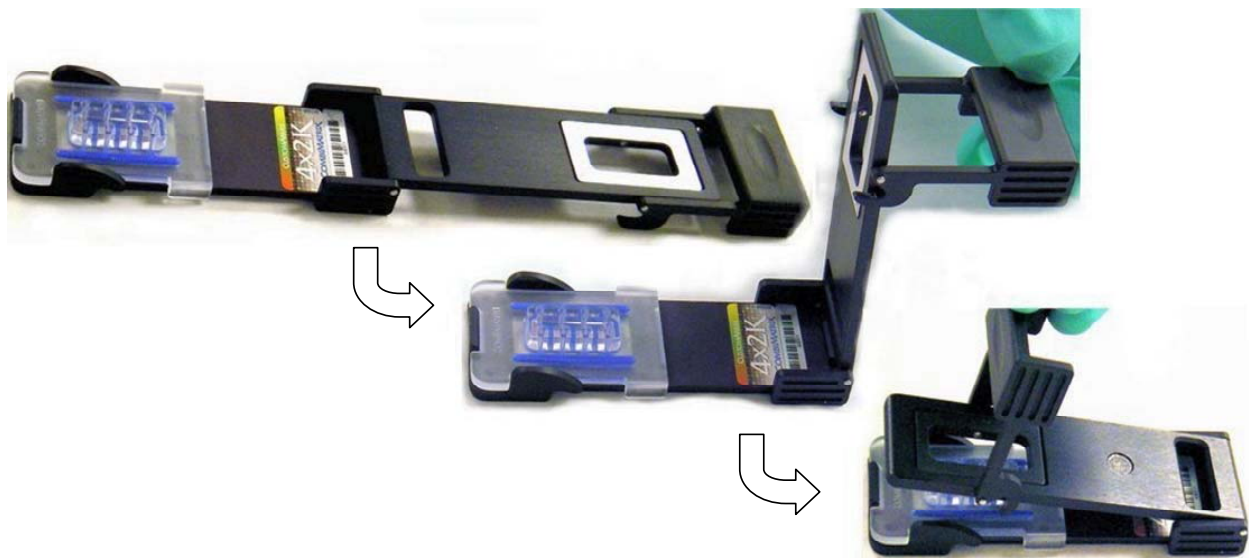

Figure 3. Placement of the Hybridization Cap on the top of the 4X2K microarray, and closing of the Hybridization Clamp.
3. Secure the 4X2K Microarray and Hybridization Cap by closing the Clamp (Fig. 3).